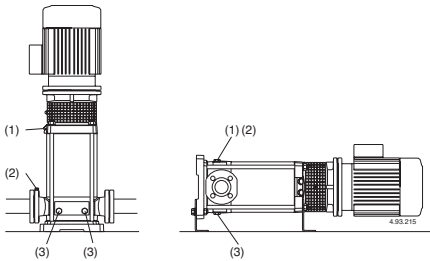

Fig.4d (1) Filling and air vent
(2) Suction side air vent
(3) Draining
When the liquid level on the suction side is above the pump (inflow under positive suction head, fig. 3B), fill the pump by slowly and completely opening the inflow gate valve while keeping the delivery gate valve and air vent holes (1), (2) (fig.4d) open to release the air.
Close the air vent holes (1), (2) (fig.4d), for MXV-B, MXV(L) 25-32-40-50 e MXV(L)4 25-32-40-50 Tighten the needle screw (14.17) in the drainage plug (14.12) (fig. 4b) and close the air vent hole (14.04).